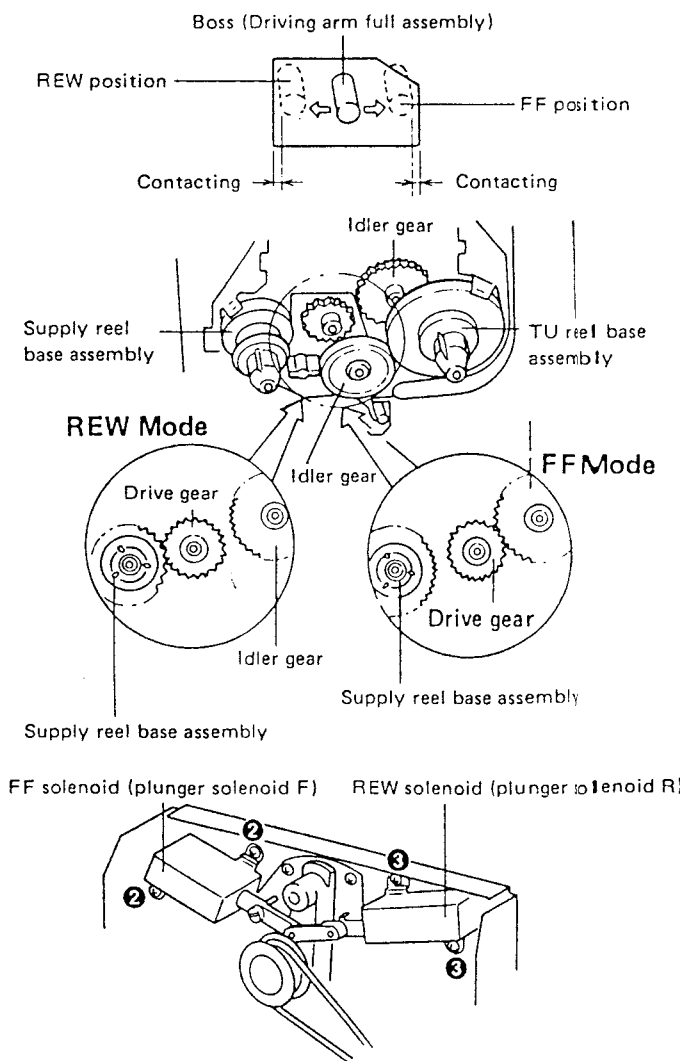

Fig. 12-6 FF and REW solenoid adjustment
2. Loosen screw 2 and adjust the mounting position of the FF solenoid (plunger solenoid F) so that the square hole in the full reel base assembly is flush against the boss of the full drive arm assembly. (See Fig. 12-6)
2. Loosen screw 3 and adjust the mounting position of the REW solenoid (plunger solenoid R) so that the square hole in the full reel base assembly is flush against the boss of the full drive arm assembly. (See Fig. 12-6).